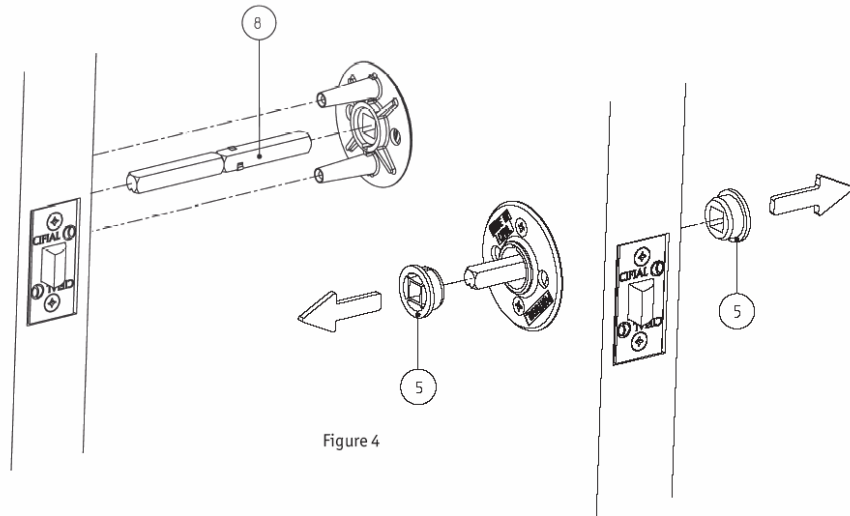

Figure 4
5. Once mounting bracket is secure, remove nylon self alignment plugs [5] and discard, as shown on figure 4.